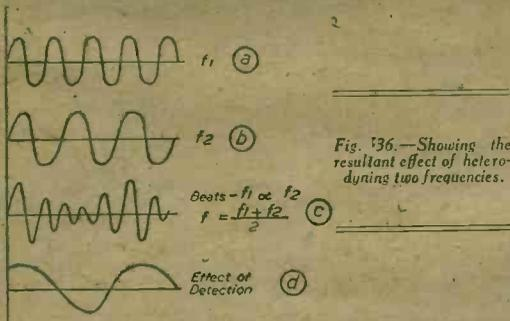

Fig. 36.—Showing the resultant effect of heterodyning two frequencies.
In Fig. 36 (a) and (b) we have two frequencies, f_1 and f_2 . Fig. 36 (c) shows the effect of placing f_1 and f_2
then the beat frequency is $f_1 - f_2 = 10$ kc/s p.s., therefore two radio frequencies can produce a low frequency beat which is the result of the two waves falling in and out of step with one another over a period of time. If we "detect" this resultant wave then we obtain a 10 kc/s p.s. voltage, as in Fig. 36 (d).
The frequency of (c) Fig. 36 is the average frequency $\frac{f_1 + f_2}{2}$, whilst a further frequency, $f_1 + f_2$, is also produced; we are not concerned with that.
Continuous or unmodulated carrier-waves are generally used for morse communication, because of the greater range possible with this type of transmission. By reference to Figs. 36 and 27 it is obvious, because of the constant amplitude of the wave, that detection will produce no audible note, merely a "click" if the wave suddenly stops or starts. To convert the R.F. into an audible frequency in a superheterodyne receiver, a second heterodyne action is required and is provided by the heterodyne oscillator (K). The R.F. is thereby stepped down to an audible frequency when heterodyned and detected. L.F. appears across the output of (G) and a steady whistle is heard in the telephones.